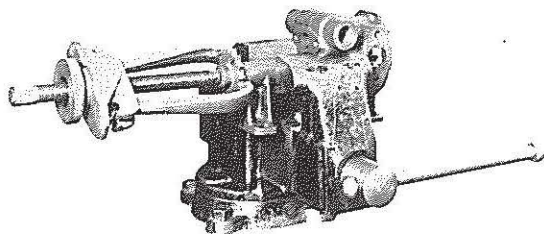

FIG. 5
4. Fasten pump body in vise, place puller on sprocket and pull sprocket from shaft as shown in Fig. 5.